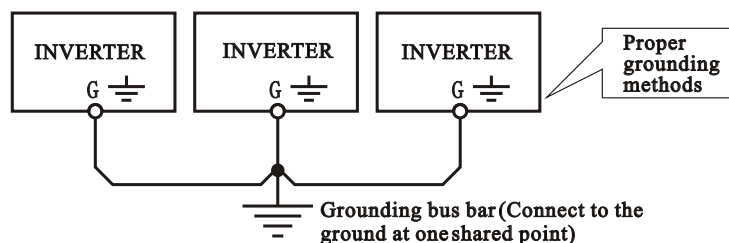

Fig. 1-1
- The ground terminal must be reliably and properly grounded to ensure security. To avoid common ground impedance, multi-piece inverters should be grounded at one shared point, as shown in Figure 1-1.